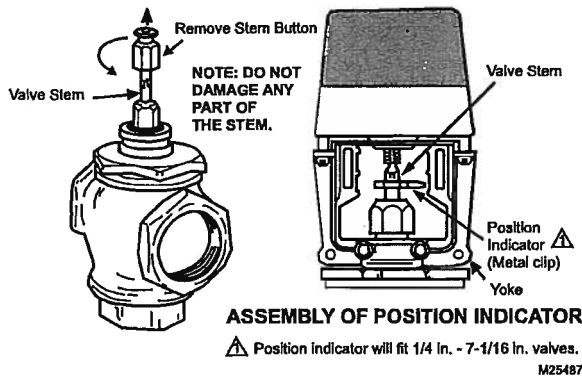

Fig. 3. Preparation for Valve Assembly.
3. Remove stem button (Fig. 3) from valve stem.
4. (Optional) Snap red position indicator (metal clip) over valve stem and position for best visibility (Fig. 3). Indicator will self-align to the marking on yoke after complete operating cycle. It is recommended that this is done after actuator installation.